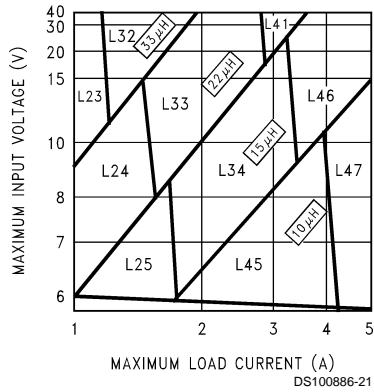
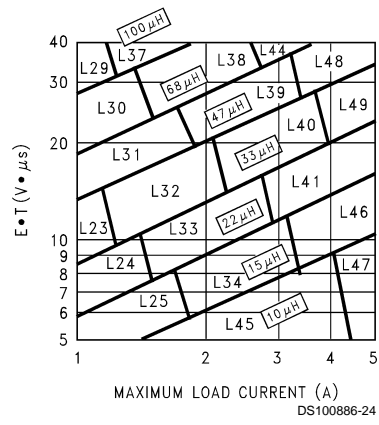

FIGURE 3. LM2678-3.3
FIGURE 6. LM2678-ADJ
Step 3: Determine the inductor required by using one of the four nomographs, *Figure 3* through *Figure 6*. Table 1 provides a specific manufacturer and part number for the inductor.
Step 5: Determine an input capacitor from Table 4 for fixed output voltage applications. Use Table 2 to find the specific capacitor type. For adjustable output circuits select a capacitor from Table 2 with a sufficient working voltage (WV) rating greater than $V_{in\ max}$, and an rms current rating greater than one-half the maximum load current (2 or more capacitors in parallel may be required).
Step 3: Use the nomograph for the 3.3V device, *Figure 3*. The intersection of the 16V horizontal line ($V_{in\ max}$) and the 4A vertical line ($I_{load\ max}$) indicates that L46, a 15 μ H inductor, is required.
Step 3: To use the nomograph for the adjustable device, Figure 6, requires a calculation of the inductor Volt•microsecond constant (E•T expressed in V•μS) from the following formula:
Using Figure 6, the intersection of 27V•μS horizontally and the 3.5A vertical line (I_{load} max) indicates that L48, a 47μH inductor, or L49, a 33μH inductor could be used. Either inductor will be suitable, but for this example selecting the larger inductance will result in lower ripple current.
Important Note: When using the adjustable device in low voltage applications (less than 3V output), if the nomograph, Figure 6, selects an inductance of 22μH or less, Table 6 does not provide an output capacitor solution. With these conditions the number of output capacitors required for stable operation becomes impractical. It is recommended to use either a 33μH or 47μH inductor and the output capacitors from Table 6.